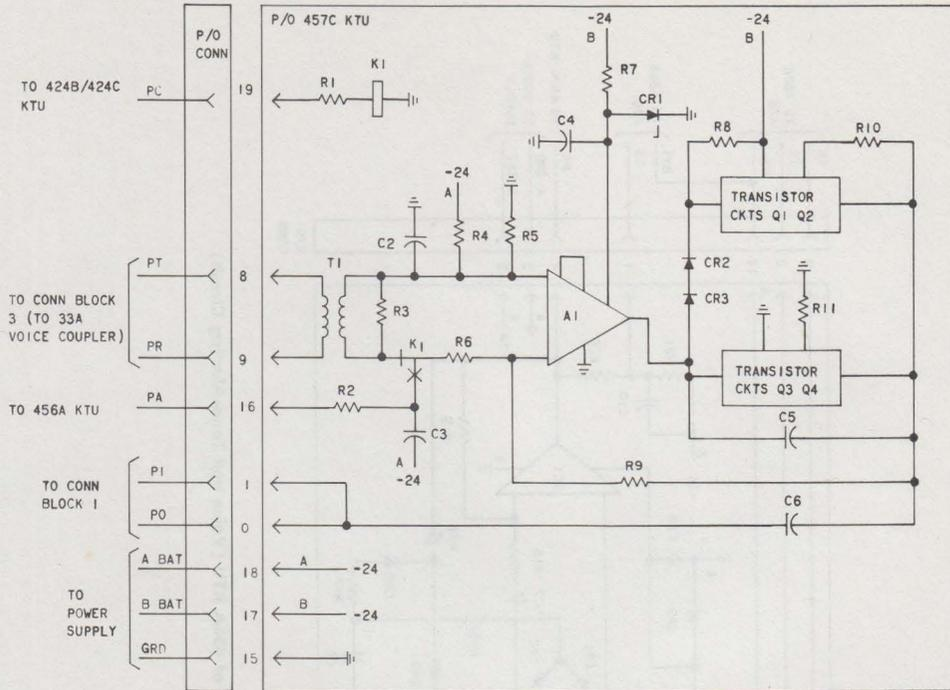

Fig. 20—Condensed Functional Schematic of 457C KTU (Paging Amplifier Circuit)
2.24 The 457C KTU (Fig. 20) is a 4-inch unit that contains the amplifier circuitry for paging and for customer-provided background music. The customer-provided music source can be connected to the paging speakers when the paging circuit is not in use.